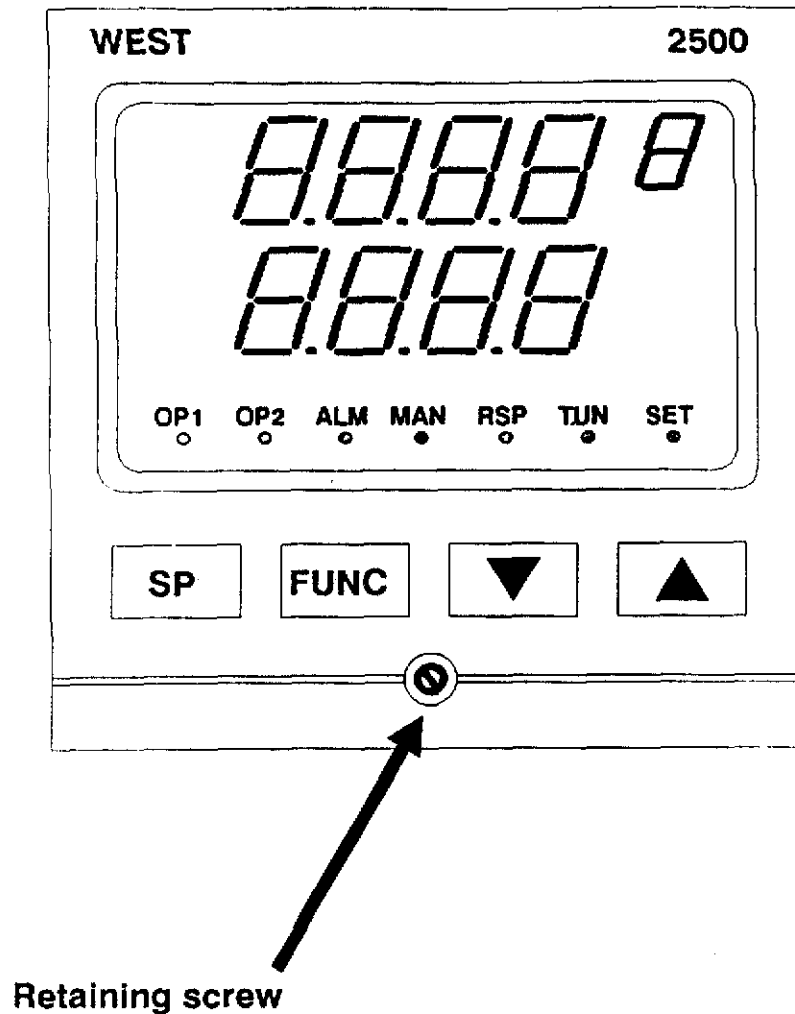

Figure 2-3 Location of Retaining Screw
1. With a flat-bladed screwdriver of appropriate size (1/4-inch), rotate the retaining screw at the base of the Controller front panel (see Figure 2-3) anticlockwise. This will cause the Controller to be partially withdrawn from its housing and will dis-engage the connector at the rear of the Controller.